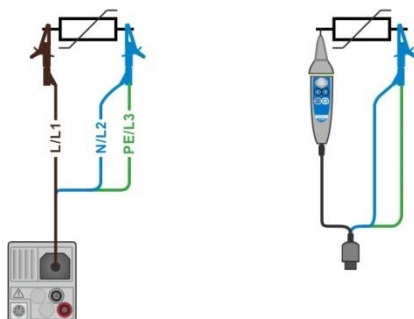
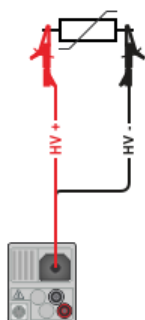

Figure 7.16: Connection of 3-wire test lead ($U_N \leq 1$ kV)
Figure 7.17: Connection of 2.5 kV test lead (Range: 2500 V)
- › Connect test leads to object under test (see **Figure 7.16** and **Figure 7.17**).